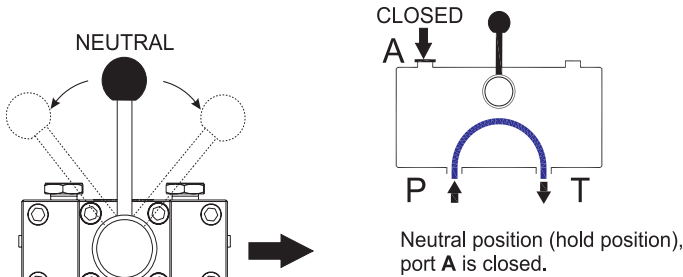

Figure 8. Control Valve Lever (Neutral Position)
1. This hydraulic pump has a 3-way, 3-position valve that is activated by a control valve lever (Figure 8). In the **neutral** position, “**PORT A**” is **CLOSED**, meaning there is no flow of pressurized fluid.
1. Place the pump control valve lever (Figure 8) in the **neutral** position.